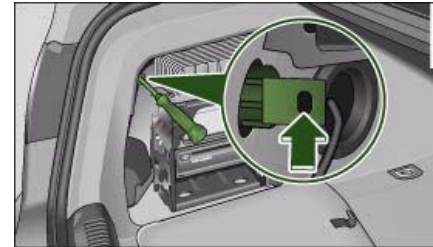

Fig. 273 Luggage compartment: Location of retaining screw for rear light
- Insert the screwdriver (from the tool kit) through the side opening in the plastic screw ⇒ *fig. 273*. ▶